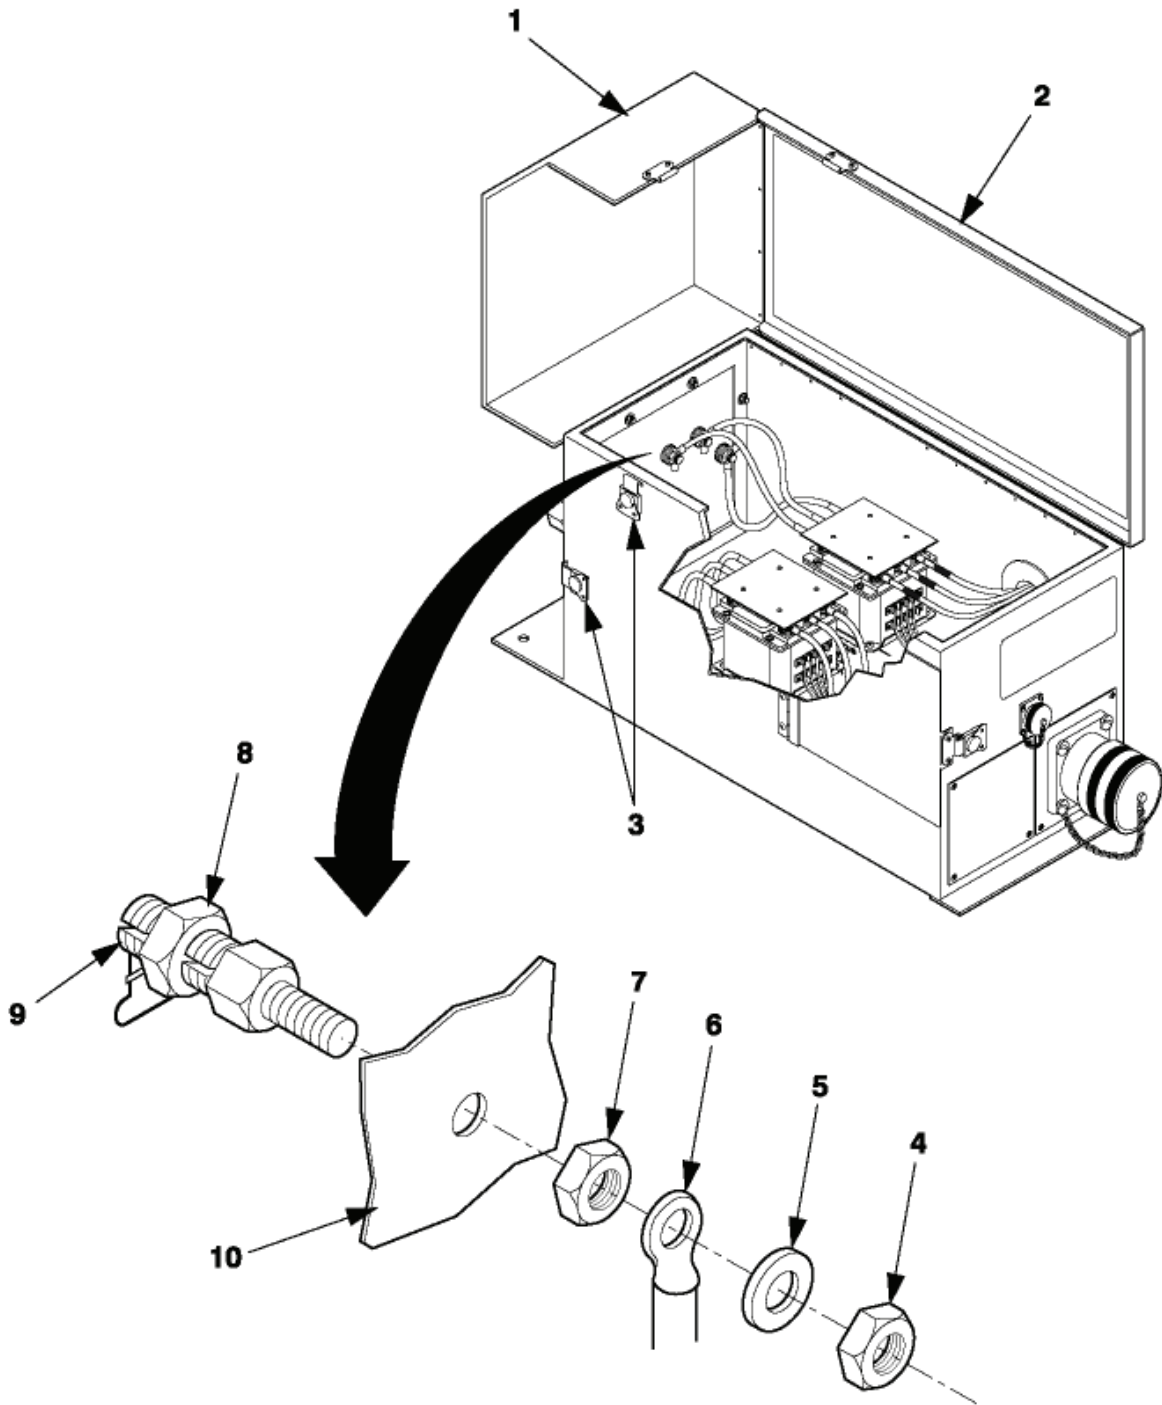

Figure 4-15.2. Switch Box Load Terminal Maintenance (B&C Models)
1. Release clamping catch (3, figure 4-15.2) and open load terminal door (1).
2. Release clamping catch (3) of switch box cover (2) in front of switch box assembly.
3. Lift switch box cover (2).
4. Disconnect external load terminal lead from defective terminal (9).
5. Close load terminal door (1, figure 4-15.2) and secure with clamping catch (3).